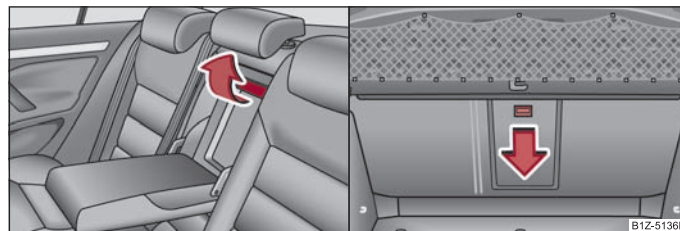

Fig. 100 Rear seats: Handle of lid/luggage compartment: Unlock button
- Pull the handle up to the stop in upward direction and fold open the lid downwards ⇒ page 86, fig. 100 - left.
- Push the unlock button downwards ⇒ page 86, fig. 100 - right and fold the lid (with armrest) to the front.